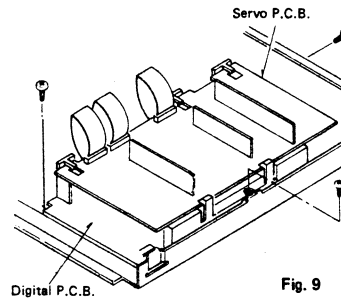

Fig. 9
- (1) Remove the front panel and Fluorescent display tube P.C.B.
- (2) Remove the 3 setscrews of the P.C.B. holder. (Fig. 9)